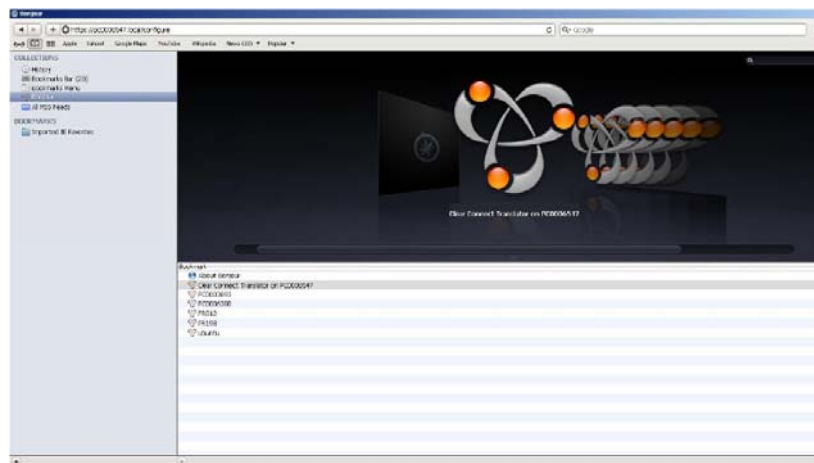

FIG. 8 Bonjour browser layout
3. Select the icon that corresponds to the host name of the NXB-CCG or select it from the bookmark list (FIG. 8).